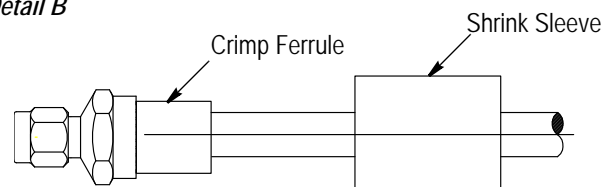

Figure 4
3. Push the cable firmly into the connector subassembly until the dielectric and cable braid bottom in the connector subassembly. See Figure 4, Detail A.
4. Slide the crimp ferrule over the back end of the connector subassembly (so that the ferrule is seated against the connector subassembly), then crimp the crimp ferrule using a .384-in. hex die. See Figure 4, Detail B.